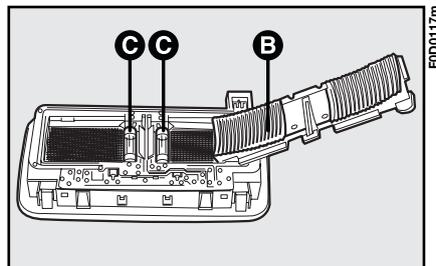

fig. 30
2) Lift cover **B**-fig. 30 and remove the bulb **C**.